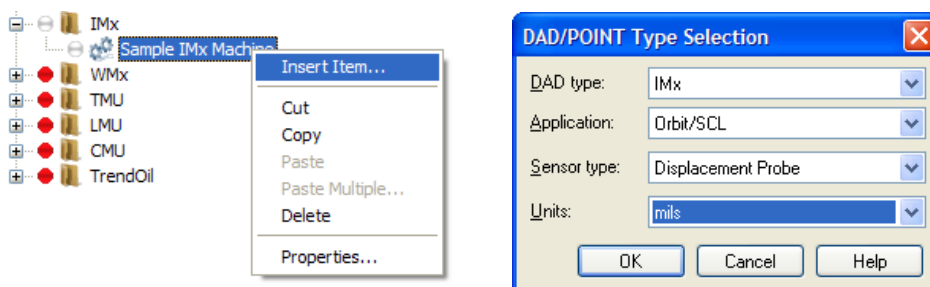

Figure 2. Inserting a new POINT
1. Start by inserting a new POINT for an IMx device. [Figure 2] For **Application**, select 'Orbit/SCL' from the drop-down menu.